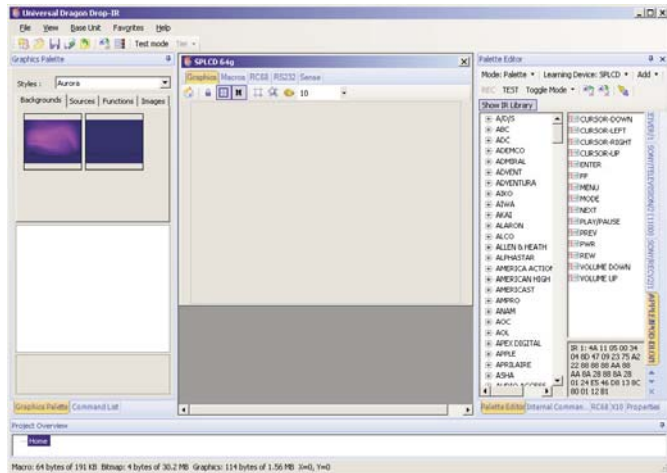

Figure 14: The SPLCD screen workspace (empty)
Smartpad LCD controllers (SPLCD) offer an extreme degree of operational sophistication and flexibility. The SPLCD programming screen begins as a blank screen workspace (see *Figure 14*). Each of the system's components will need to have its own LCD control screen with its own particular set of control buttons. Normally, each of these control screens would have to be created from scratch, with each button selected and positioned individually — a very time-consuming process. This process can be streamlined by using Universal Dragon's *AutoBuild Wizard* (see below).
After selecting the specific SPLCD controller unit with the *New Project* function (*File > New Project > Keypads > Smartpad LCD > [39g, 57g, 64g or 64v]*), an empty SPLCD screen workspace appears (see *Figure 14*). You can re-size this screen as necessary by dragging its lower right-hand corner.
5. Click the *Home Layer* icon (see *Figure 14*) to activate the home page. After clicking the *Functions* tab, select and drop the desired home layer Function buttons to the screen.